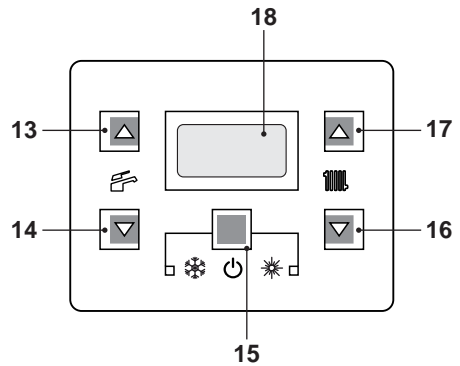

Fig. 2.5
- Press the key 15 for 2 seconds until both  and  symbols appear on the display Fig. 2.5.